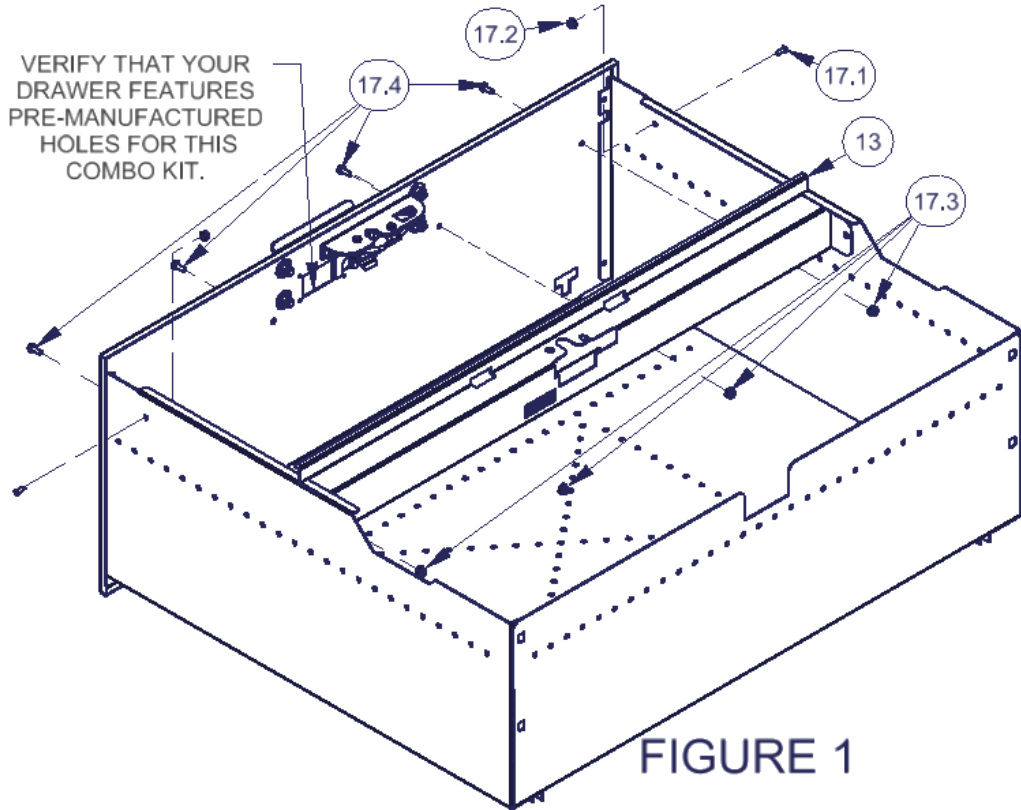

FIGURE 1
**BEFORE BEGINNING THIS INSTALLATION, VERIFY THAT YOUR REAR CARGO OR TACTICAL GEAR DRAWER HAS BEEN MANUFACTURED TO ACCEPT THIS COMBO LOCK KIT. THE DRAWER FRONT MUST FEATURE HOLES FOR THE COMBO LOCK. A COMBO HOLE COVER PLATE MAY BE COVERING THE COMBO LOCK HOLES. REFER TO FIGURE 1.**
1. Remove the #13 Drawer Front Latch Cover by removing the (2) #17.1 screws and (2) #17.2 nuts on each side followed by the (4) #17.4 screws and (4) #17.3 nuts at the drawer front. Save all hardware and latch cover for reuse. (Figure 1)